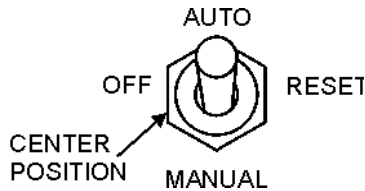

Figure 58. Off/Manual Auto Switch (OFF)
4. Place the Off/Manual/Auto Switch (Figure 58) in the "OFF/RESET" position